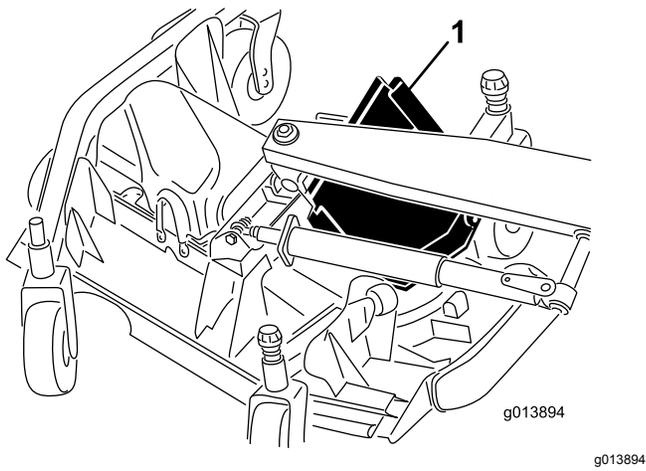

Figure 85
6. Lift the front edge and guide it between the lift arm and the roller to remove it (Figure 85).